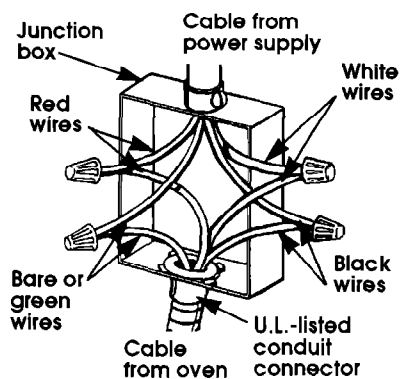

Figure 2
4. Connect the two black wires together; then connect the two red wires together. See Figure 2.